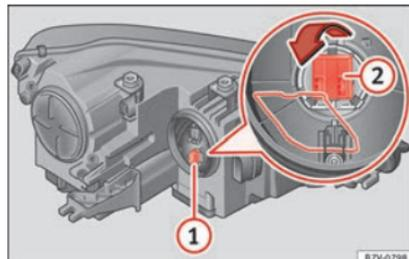

Fig. 109 Turn signal bulb holder **1** and turning light **2**.
- Rotate the bulb holder **1** » **Fig. 109** to the left all the way and pull it out backwards together with the bulb.
- Press the wire clip downwards and pull the bulb holder **2** » **Fig. 109** out together with the bulb.